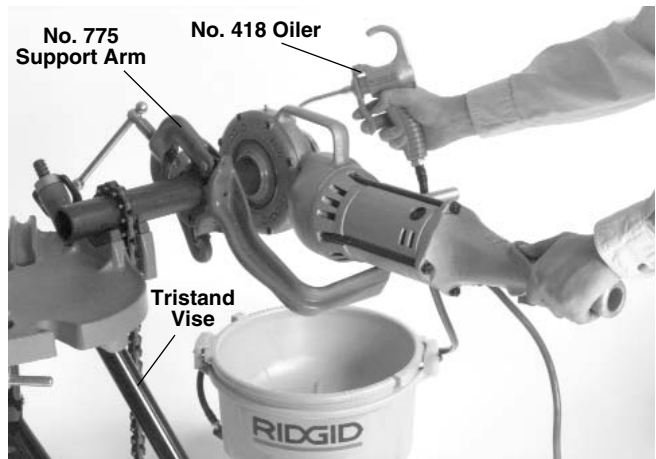

Figure 4 – Threading 2" Pipe With Power Drive Positioned On Left Side Of Vise
3. Be sure the 418 Oiler is properly filled with RIDGID Thread Cutting Oil. Position the oiler in front of the vise (Figure 4).
4. Position No. 775 Support Arm on pipe so end of tang is in line with end of the pipe (Figures 4 & 5). Make sure jaws squarely contact pipe and tighten handle firmly to prevent the slipping of the jaws.
▲ WARNING To avoid serious injury, make sure Power Drive is correctly positioned on support arm (*Figures 4, 5 & 6*). For right hand threads, Die Head will rotate clockwise (looking at the face of the Die Head). Forces developed by the threading torque will be in the opposite or counter-clockwise direction.